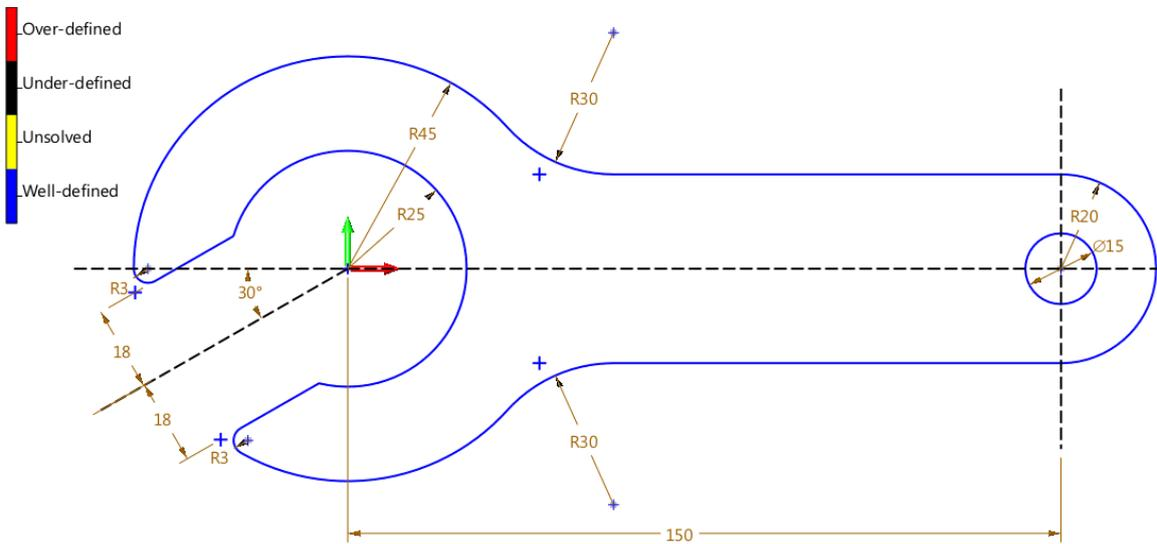

Figure 107 Final Sketch
STEP 11 Add the needed fillet between the lines. The Figure 107 shows the final result.